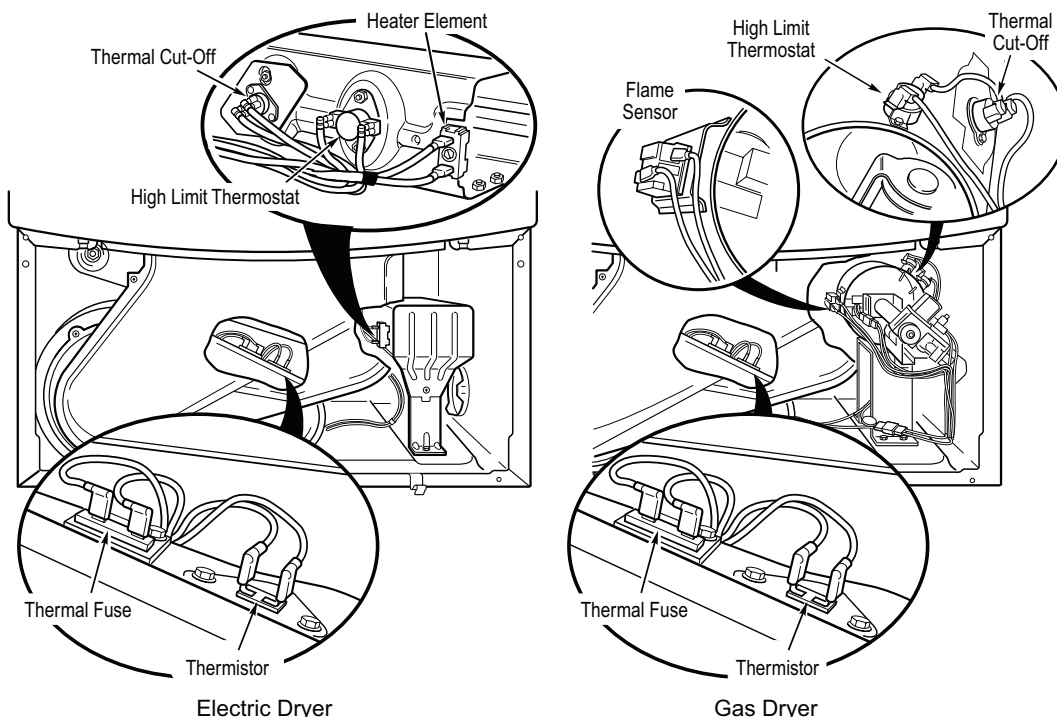

Figure 11. Thermal Components, viewed from front.
Locate the components using Figure 11.
5. Locate the high limit thermostat. See Figure 11. Measure the continuity through it by connecting the meter probes on the red wire and blue wire.
- Check wire connections at the machine control electronics and thermistor. See Accessing & Removing the Electronic Assemblies, and for thermistor location see Figure 11.
- If wire connections are good, remove the two wires from the thermistor and replace the thermistor. See Figure 11.
2. Access the thermal fuse by first removing the toe panel. See Removing the Toe Panel; and for thermal fuse location see Figure 11.
3. Using an ohmmeter, check the continuity across the thermal fuse. See Figure 11 for location.
3. Using an ohmmeter, check the continuity across the thermal cut-off. See Figure 11 for location.